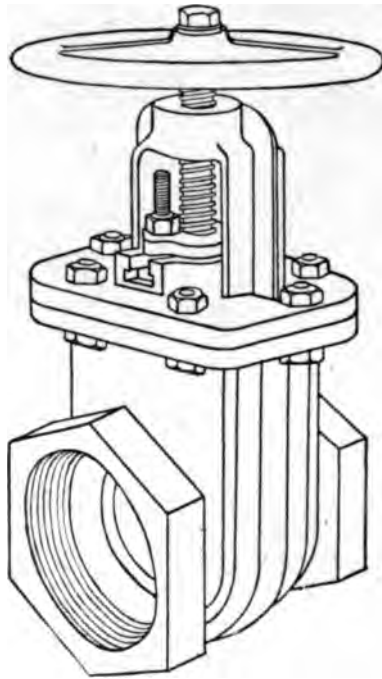

Fig. 86.—Gate Valve With Yoke.
A. With a yoke over the bonnet of the valve to strengthen it and to provide a suitable guide and bracing for the large stem. Globe, angle and gate valves of large size have this construction. Fig. 86 illustrates a gate valve with yoke.